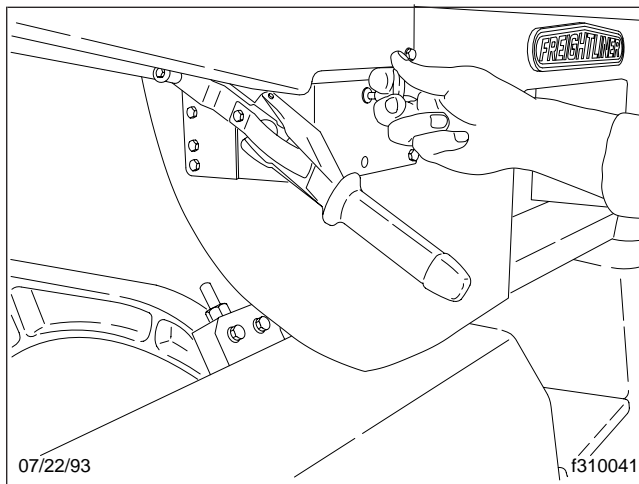

Fig. 9, Safety Hook Release Handle
6. Pull the safety hook release handle (Fig. 9) while working the hydraulic pump. If the cab does not begin to raise during the first 10 to 15 strokes, stop what you are doing. Make sure the shift tube latch mechanism has released.